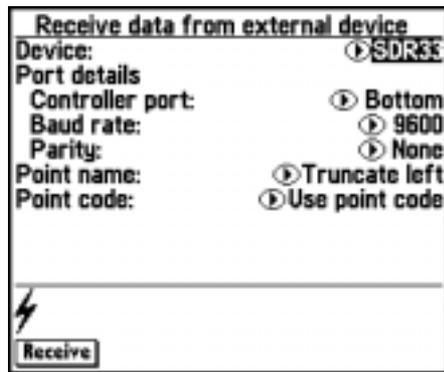

Figure 9.7 Receive ASCII Data screen
1. Select *Files/Import/Export / Receive ASCII data*. Figure 9.7 shows the screen that appears.